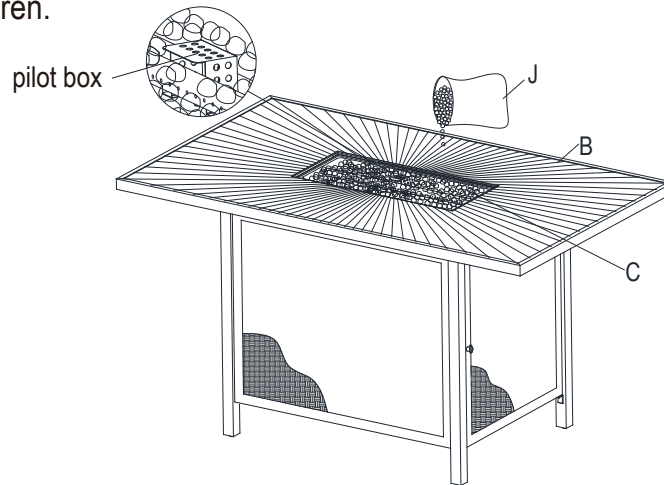

Figure 8
10. Place glass beads or lava rock (J) around the burner, leave the pilot box uncovered (see Figure 8).